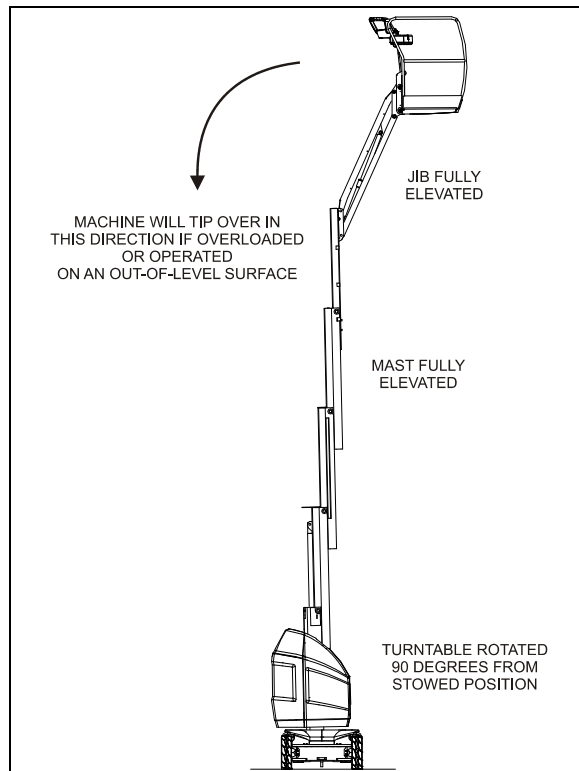
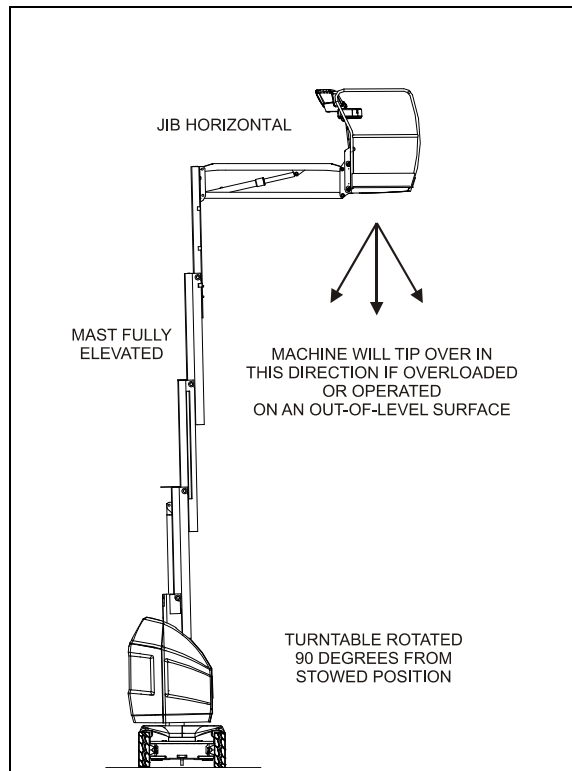

Figure 4-1. Position of Least BACKWARD stability
Figure 4-2. Position of Least FORWARD stability
Machine stability is based on two (2) conditions which are called FORWARD and BACKWARD stability. The machine's position of least FORWARD stability is shown in (See Figure 4-2.) and its position of least BACKWARD stability is shown in (See Figure 4-1.).